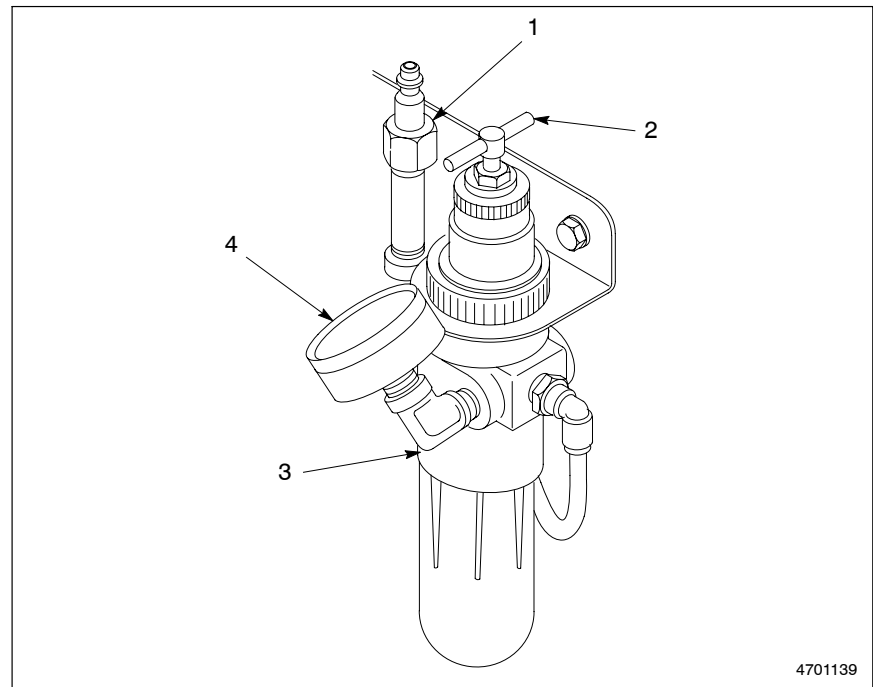

Fig. 3-2 Air Filter/Regulator and Air Pressure Gauge
2. Set the main filter/regulator (2) (See Figure 3-2) to 0 kPa/psi. Secure an external, unlubricated air supply of at least 551–689 kPa (80–100 psi) to the quick disconnect fitting (1).